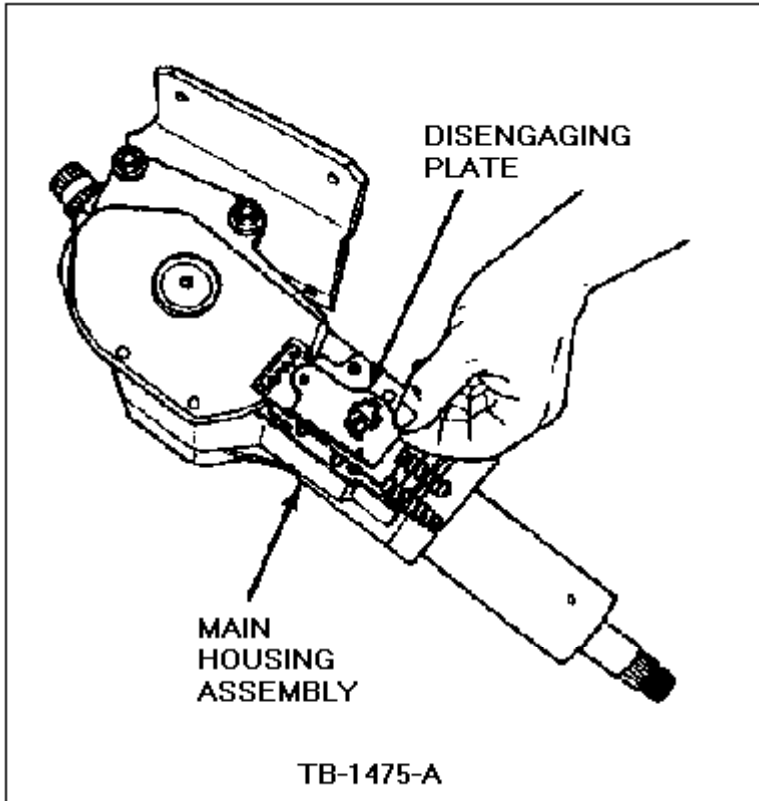

Figure 8 - Article 90-5-10
9. Remove the disengaging plate, Figure 8.